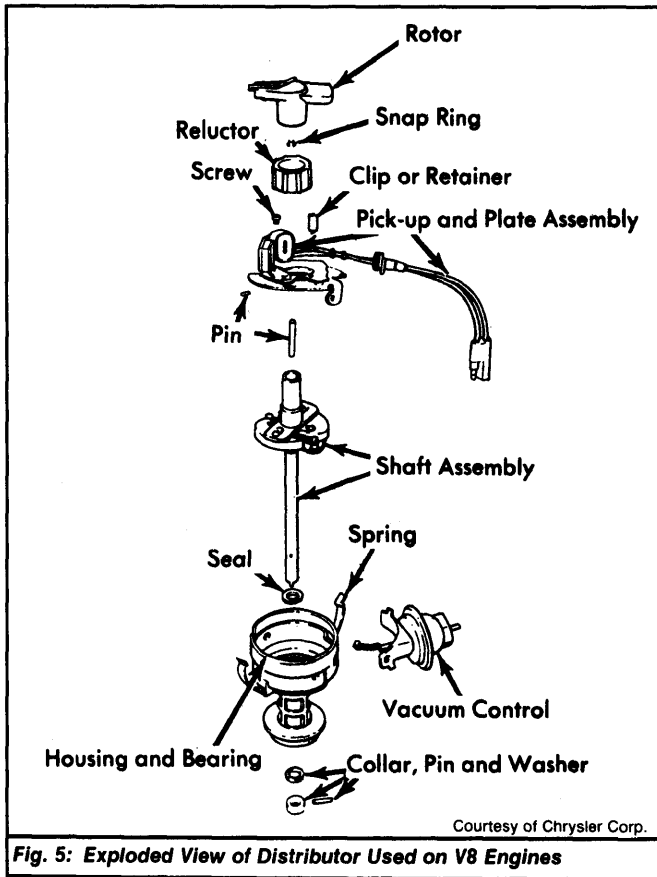

Fig. 5: Exploded View of Distributor Used on V8 Engines
- 3) On 6-cylinder models, remove distributor drive gear retaining pin and slide gear off end of shaft. See Fig. 4. On V8 models, remove distributor shaft retaining pin and slide retainer off end of shaft. See Fig. 5.